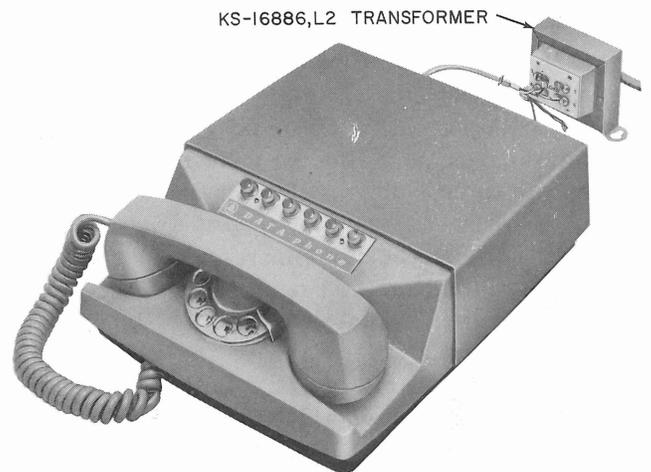

Fig. 1—Data Set 602D-L1, Front View (Available Also With TOUCH-TONE Dial)
1.01 This section provides a physical and functional description as well as operating procedures for Data Set 602D-type (Fig. 1).
3.02 The function of the 602D-type data set depends on whether the transceiver is in the talk, send-data, or receive-data mode of operation. The mode of operation is determined by depression of either the TALK, RCV, or TRMT pushbutton shown in Fig. 1.